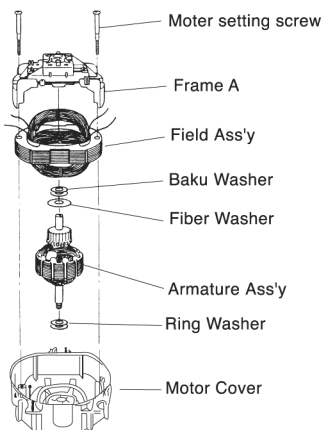

Fig. 7
6. Reassembly of Motor Cover,Frame A,Armature Ass'y and Field Ass'y -Fig.7, 8